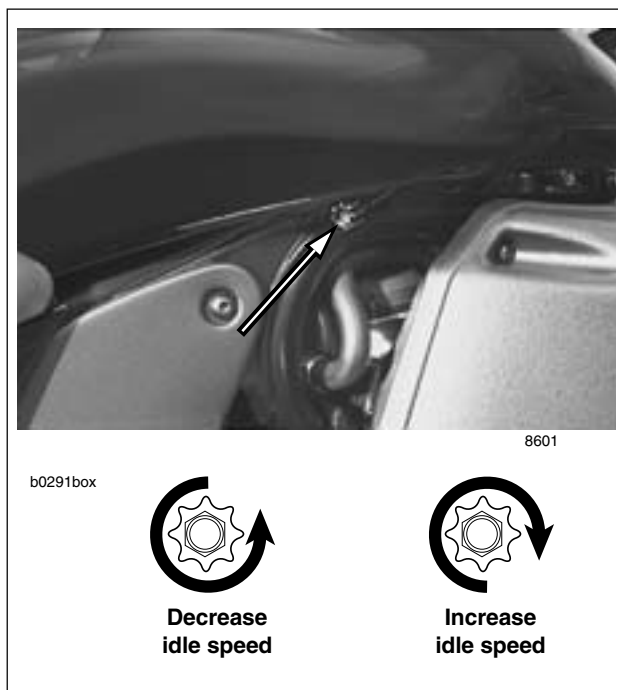

Figure 1-50. Idle Speed Adjuster
5. See Figure 1-50. Start engine and set engine speed by turning idle adjuster clockwise to increase speed or counterclockwise to decrease speed. See Table 1-14.